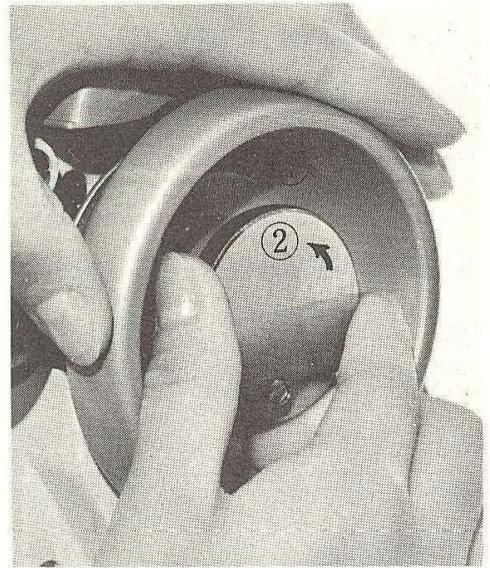

Fig. 5
Disengage the hand wheel (①, Fig. 5) from the stitching mechanism by turning the clutch ② toward you or counter-clockwise.